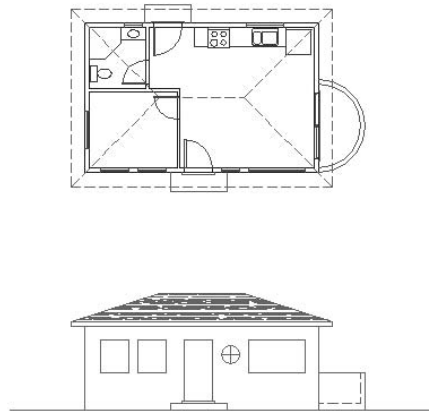

FIGURE 9.5: The finished hatch pattern in the roof area
11. Right-click to accept this hatch. The hatch is now placed in the roof area (see Figure 9.5).